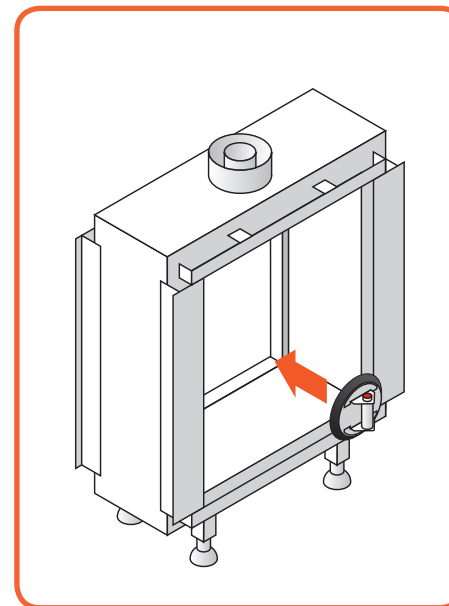

Figure 10.8 - Put on suction cups
- Put the section cup on the glass and make sure it is properly vacuumed, so it will not come off. (See *Figure 10.8*)